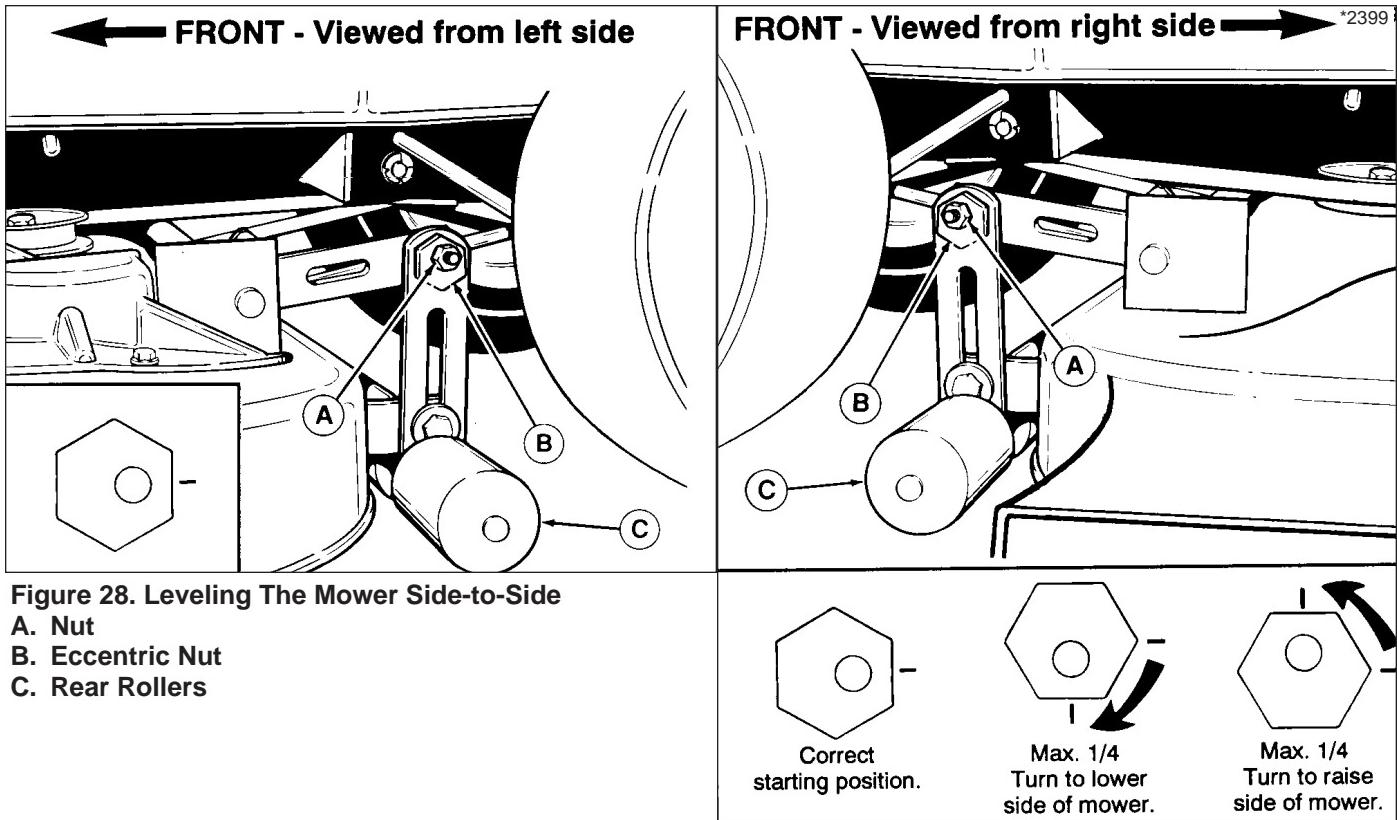

Figure 28. Leveling The Mower Side-to-Side
- Make sure rear rollers (C, Figure 28) are on the ground. If not, refer to Transport Height Adjustment.
- See Figure 28. On left side of mower, make sure eccentric nut is in correct position as shown. Loosen outside nut (A) and rotate eccentric nut (B) so that flat side with hole closest to it is towards the rear. Tighten outside nut (A) while holding eccentric nut (B).
- On right side of mower, loosen outside nut (A). Turn eccentric nut (B) counterclockwise to raise side of mower, or clockwise to lower right hand side of mower.